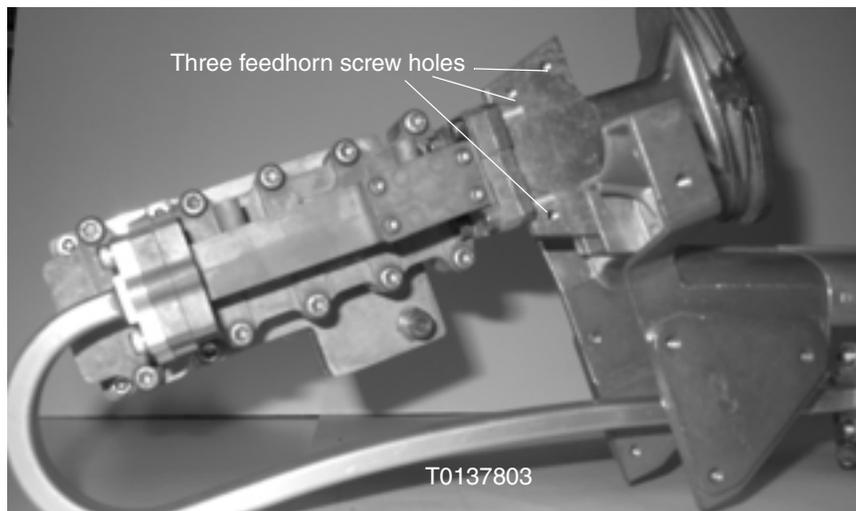

Figure 6: Locate feedhorn screw holes
5. Locate the screw holes on the feedhorn. See Figure 6.